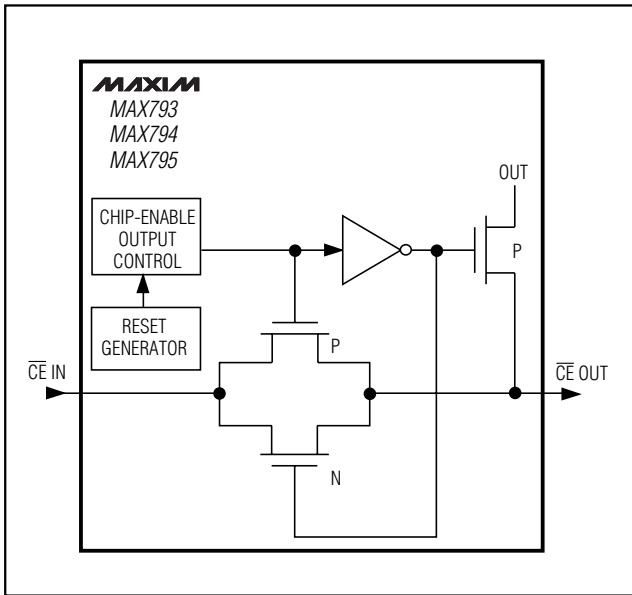

Figure 7. Chip-Enable Transmission Gate
Internal gating of chip-enable (CE) signals prevents erroneous data from corrupting CMOS RAM in the event of an undervoltage condition. The MAX793/MAX794/MAX795 use a series transmission gate from $\overline{\text{CE}}$ IN to $\overline{\text{CE}}$ OUT (Figure 7). During normal operation (reset not asserted), the CE transmission gate is enabled and passes all CE transitions. When reset is asserted, this path becomes disabled, preventing erroneous data from corrupting the CMOS RAM. The short CE propagation delay from $\overline{\text{CE}}$ IN to $\overline{\text{CE}}$ OUT enables these μP supervisors to be used with most μPs. If CE IN is low when reset asserts, CE OUT remains low for typically 10μs to permit completion of the current write cycle.